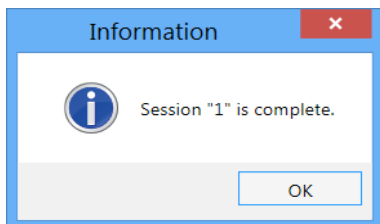

Fig. 40. “Information” message box.
37. When intervention is completed, the software will display a message box informing on intervention completion. Press “OK” button (Fig. 40). Move the coil up and away from the patient's head.